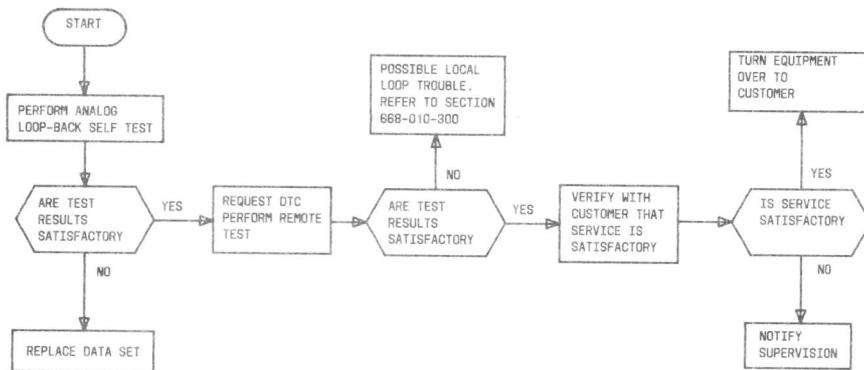

Fig. 2—Installation Test Sequence
**2.02** Refer to Fig. 2 for the sequence of tests to be performed to verify proper installation. The 921A DTS is not required for installation testing, but may be used if needed.